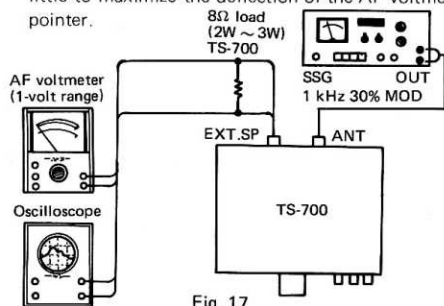

Fig. 17
Instruments are to be connected as shown in Fig. 17.
- 2) Referring to Fig. 17, feed the SSG output of 145 MHz, not modulated, at 30 dB into the transceiver set for FM mode reception. The input level should be such that the pointer of "S" meter will swing to and stay at the middle position on the scale.